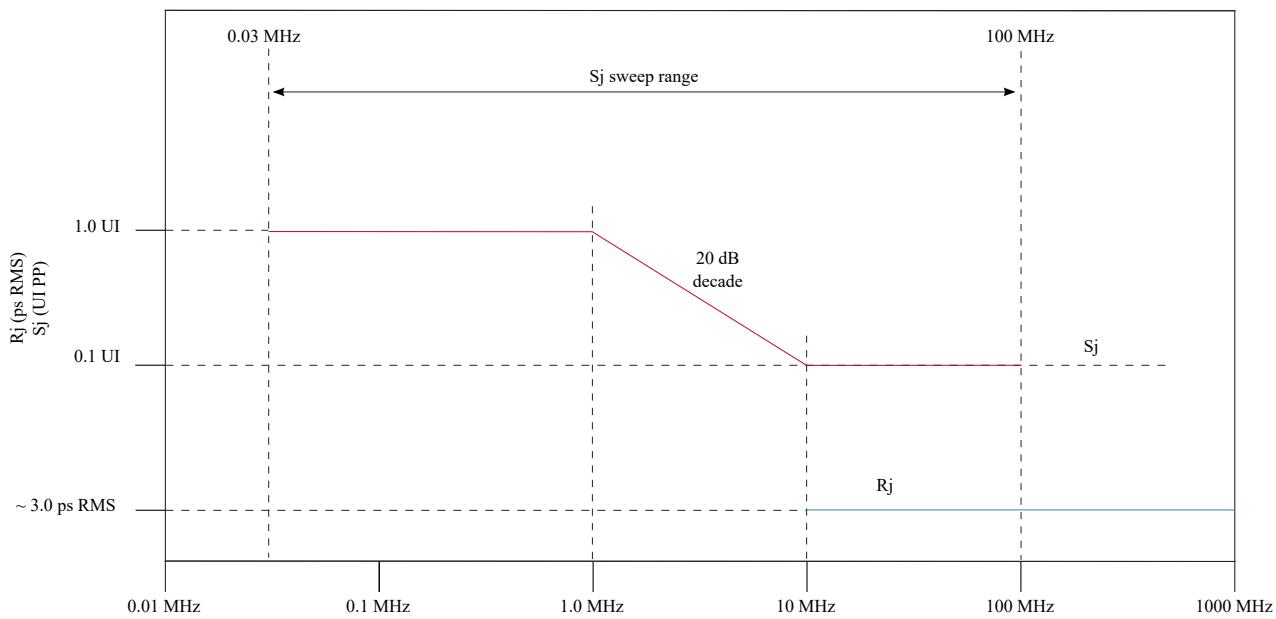

Figure 25. Swept sinusoidal jitter mask
- The sinusoidal jitter in the total jitter tolerance may have any amplitude and frequency as shown in Figure 25.
- Random jitter (R_j) is applied over the following range: The low frequency limit may be between 1.5 and 10 MHz, and the upper limit is 1.0 GHz. See Figure 25 for details. R_j may be adjusted to meet the 0.3 UI value for $T_{RX-SV-8G}$.